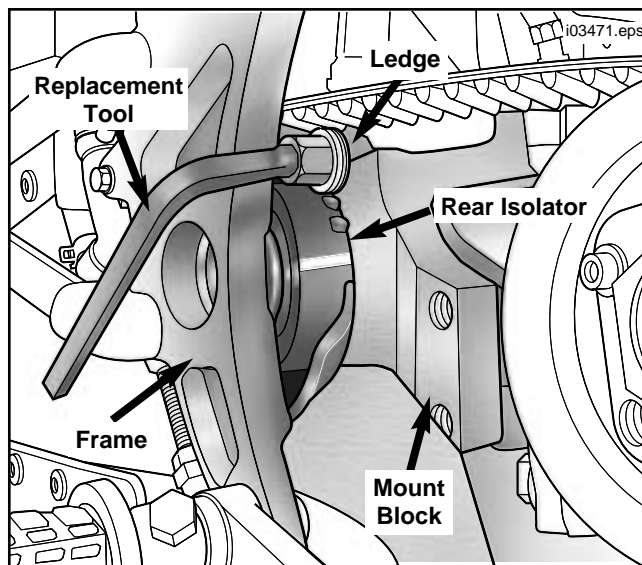

Figure 1. Isolator Tool In Use
2. See Figure 1. Working on right side first, insert the rear isolator replacement tool between mount block and frame. **NOTE:** Ledge on tool should engage top of mount block.